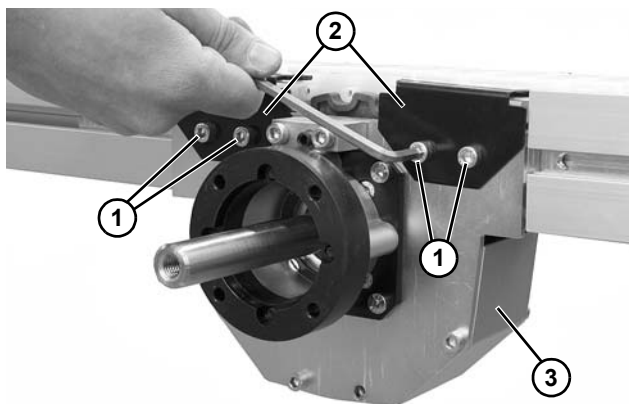

Figure 139
4. Remove four socket head screws (Figure 139, item 1) securing belt hold down tabs (Figure 139, item 2) to drive assembly (Figure 139, item 3).